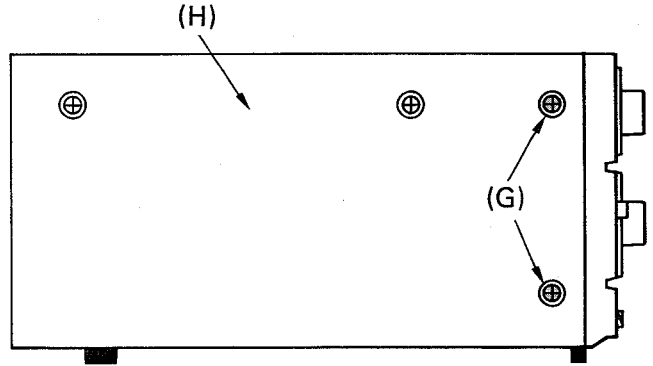

Fig. 3
3. Remove the screws (G) fastening the left side of Cabinet (H). (Fig. 3)